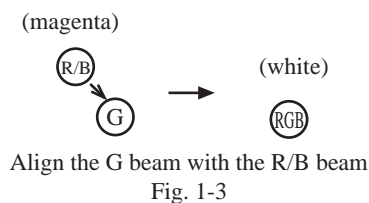

Fig. 1-3
- (3) In the same way, pay attention to the screen, and perform adjustments with a 6-pole magnet so that the magenta beam and the G beam align and become a white dot. (refer to Fig. 1-3)